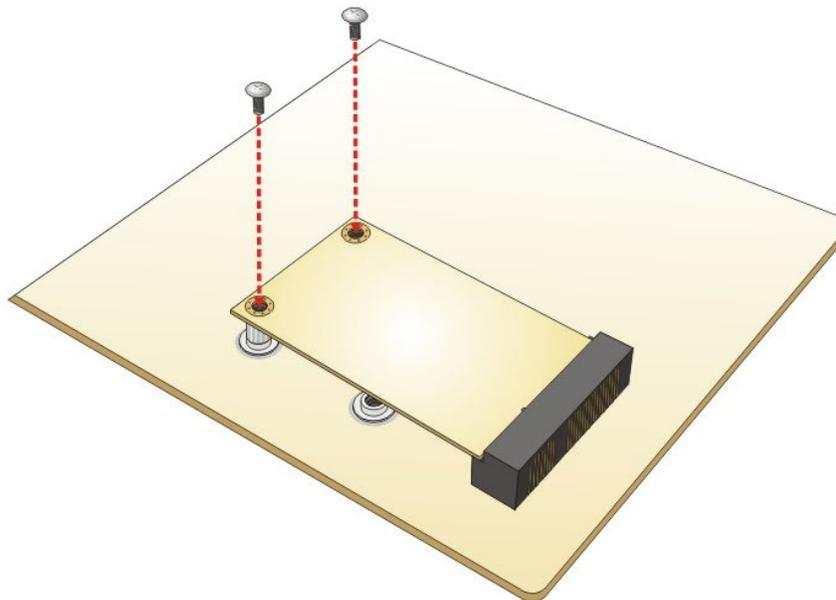

Figure 3-15: Securing the PCIe Mini Card
- Step 5:** Secure the PCIe Mini card. Secure the PCIe Mini card with the retention screws previously removed (Figure 3-15).